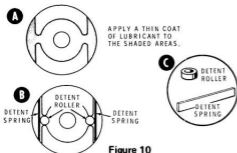

Figure 10
- ( ) STOP IMMEDIATELY and locate the two detent rollers and two detent springs (shown in Figure 10). Look on the rear of the knob and on the front of the case. If all four parts (two rollers and two flat springs) are not found, you will be unable to continue with the case replacement.
- ( ) Refer to Figure 10 and apply a thin coat of lubricant (Lubriplate or Vaseline) into the umbrella-shaped areas on both sides of the RANGE switch knob depression. Use a match or toothpick to apply the lubricant. Do not use a cotton-tipped swab, as the fibers that come loose may cause the detent mechanism to bind.
- ( ) Refer to Figure 10 and place the two springs and then the two rollers as shown.